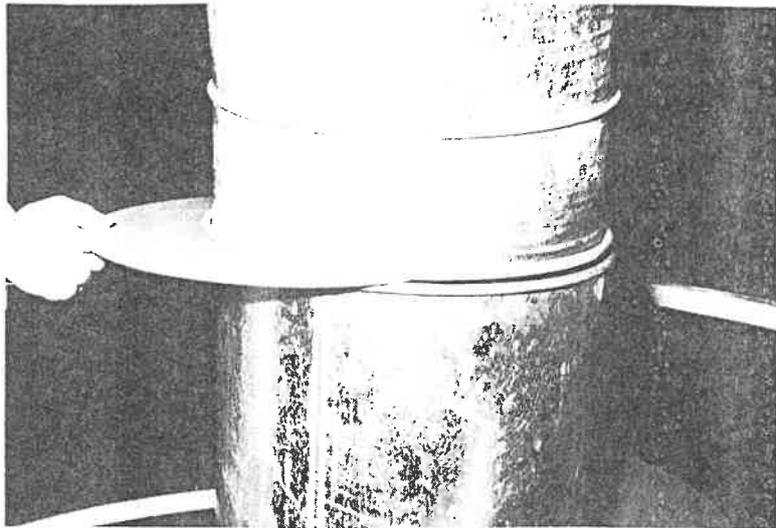

Fig. 4.2
- 4.8. Where there is a permanently installed telescopic suction pipe this should be sealed off by means of an inserted sealing disc and a pipe clip fitted with sealing gasket (Fig. 4.2).
- 5.1.4. Remove the sealing disc (Fig. 4.2).